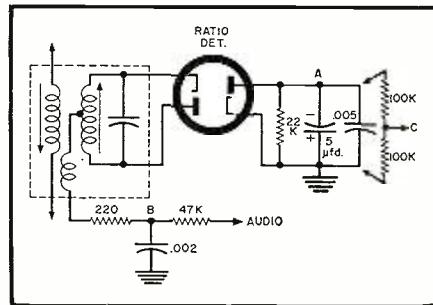

Fig. 1. Conventional TV ratio detector.
Let us give this matter a little thought. What do we use the jig for anyway? Fig. 1 shows a pair of 100,000-ohm resistors ready to be clipped across the ratio detector load. When they have been clipped on, we are instructed to connect a v.t.v.m. between points *B* and *C* and then adjust the ratio-detector secondary slug for zero volts on the meter.
6. Note the voltage obtained after adjustment in the preceding step. Next transfer the meter's d.c. probe to the center tap of the ratio-detector transformer—or any point connected to this center tap. This will be the already mentioned point *B* of Fig. 1. Now adjust the transformer secondary for exactly half the voltage you obtained in the last step. For accuracy, you may wish to repeat steps 5 and 6.